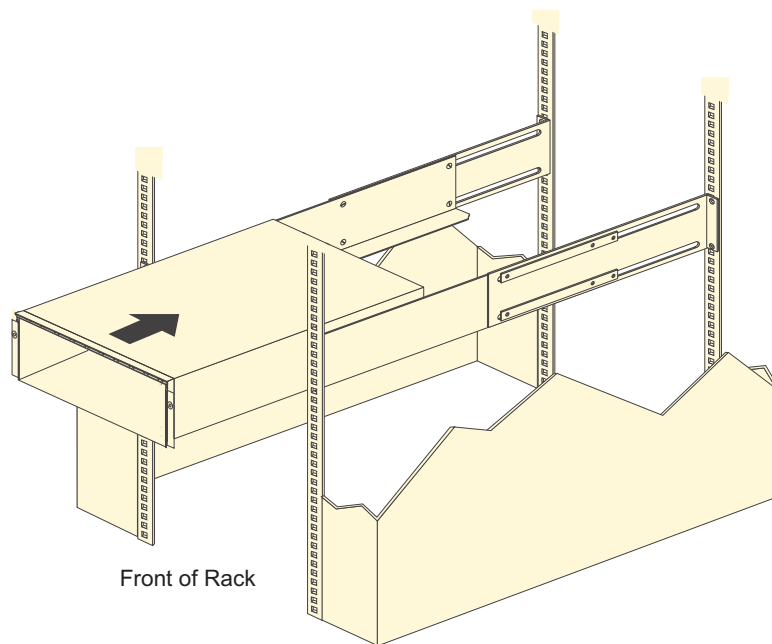

Figure 16. Installing the EXP810
- b. With help from another person, place the back of the storage expansion enclosure on the support rails, and then slide the unit into the rack as shown in Figure 16.